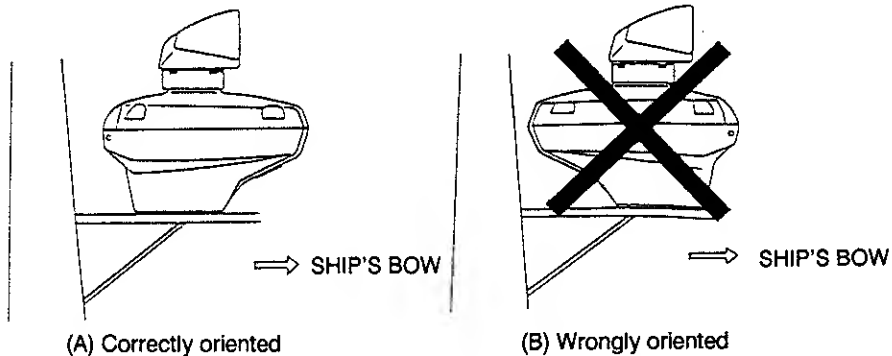

Figure 5-1 How to orient the scanner unit
- 3) Place the scanner housing on the mounting platform and orient it as shown in Figure 5-1(a).